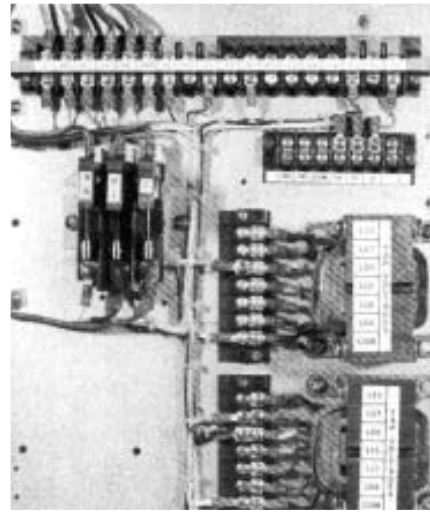

Figure 1-6.
3. The knife switches on the back panel should be set with the V1 (potential switch) [and V6 if present] open (pulled out), and the C (CT shorting switch) closed (pushed in). See Figure 1-6.
8. Close the SOURCE-LOAD (SL) disconnect switch. (Delta applications only).